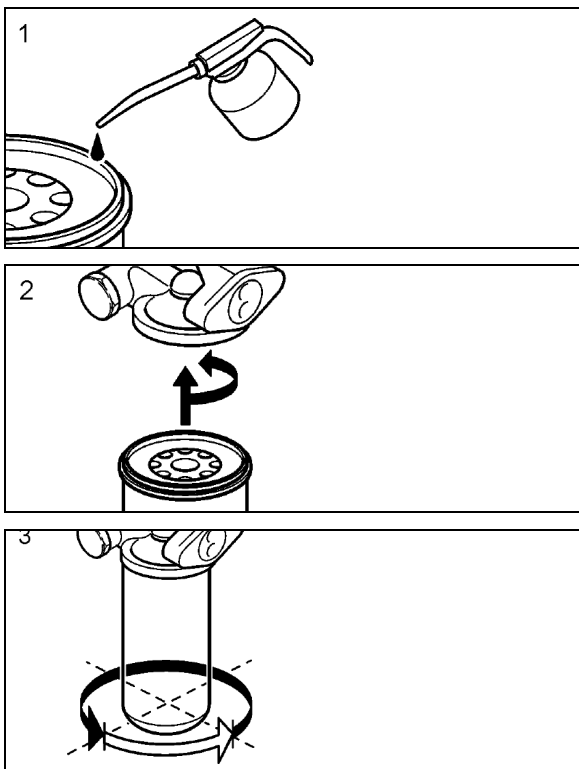

FIGURE 9: OIL FILTER REPLACEMENT
- Prefill the new oil filters with approved engine oil. Refer to Figure 9, also, lubricate the filter gaskets with engine oil (1). Hand tightens the oil filters until they contact the sealing surface of the oil filter housing (2). Manually tighten the oil filters an additional  $\frac{3}{4}$  to 1 full turn (3).